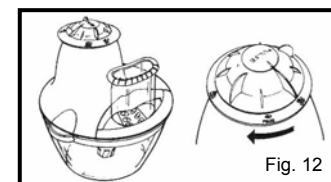

Fig. 12
7. Place the power unit onto the bowl. Turn the locking/unlocking button to the left to lock the power unit in place on the bowl. (Fig. 12)